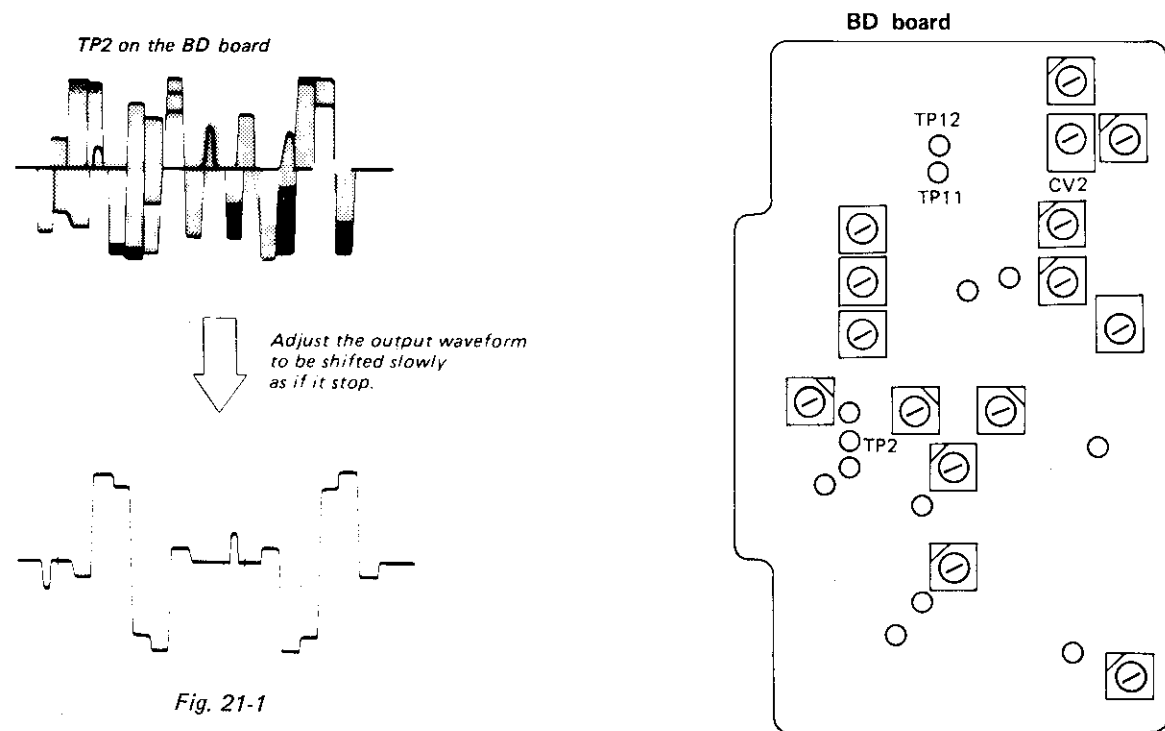

Fig. 21-1
4. Adjust CV2 of BD board so that the output waveform is shifted slowly as shown in Fig. 21-1.